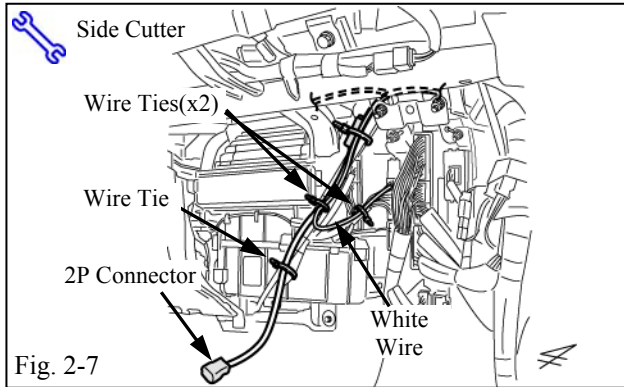

Fig. 2-7
- (f) Secure the V5 Harness' White Wire to the Vehicle Harness with 1 Wire Tie. (Fig. 2-7)
- (g) Route the V5 Harness downward to the Passenger's Floor, securing it to the Vehicle Harness with 1 Wire Tie. (Fig. 2-7)
- (h) Secure both the Main V5 Harness and the White Wire to the Vehicle Harness with 1 Wire Tie. (Fig. 2-7)